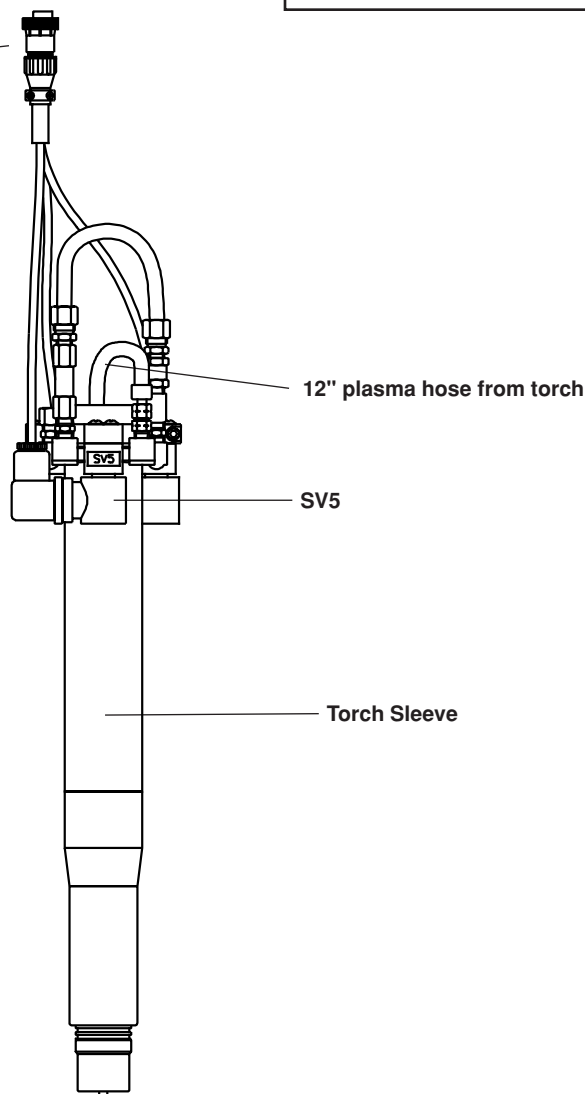

Figure 3-5 Torch with Valve Cluster and Cable Attached
1. Loosen the valve cluster screw and slide the valve cluster up the torch sleeve. Secure in place approximately as shown in Figure 3-5.